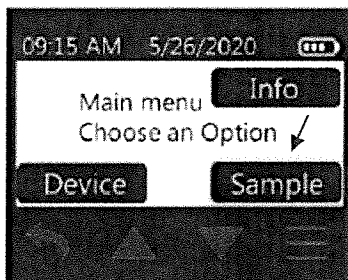

Figure 4. Sample Button
1. Press the main menu button (three Horizontal lines below the display) to get to the Main Menu and touch Sample (Figure 4).